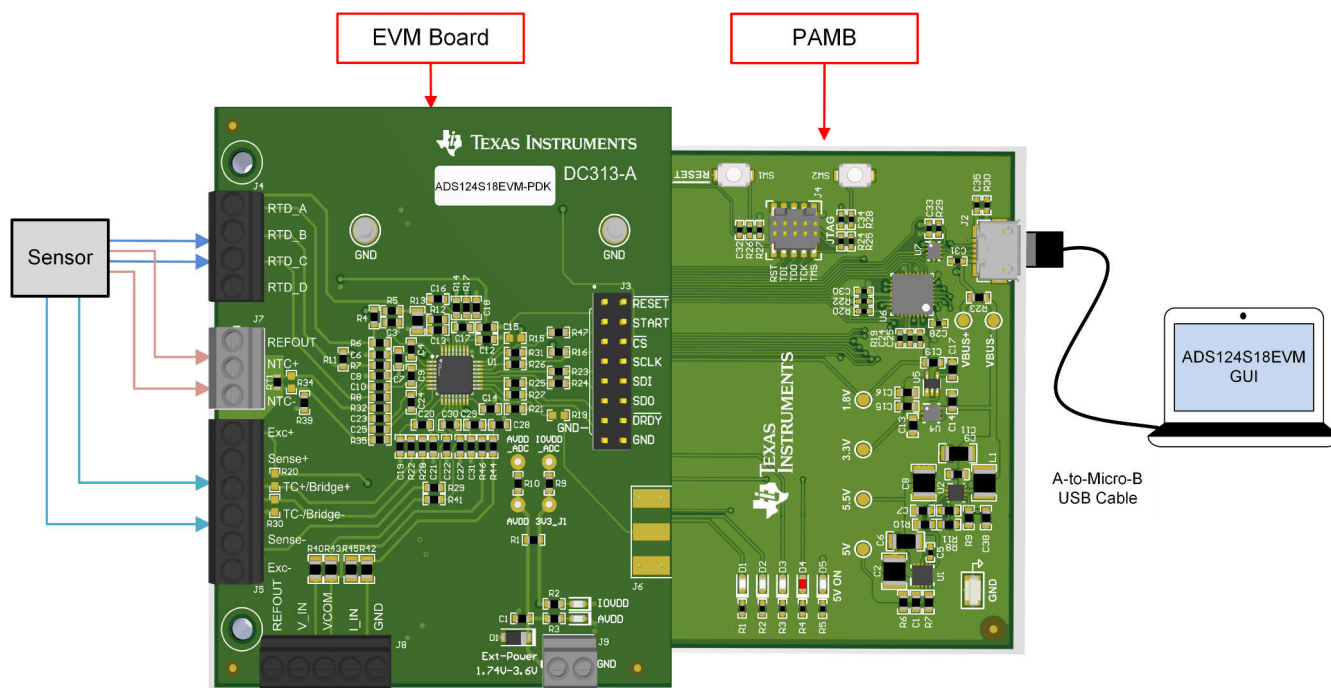

Figure 1-1. DC313A Connection for Evaluation
This user guide describes the operation and use of the ADS124S18 evaluation module. The ADS124S18EVM is a fully assembled evaluation platform designed to highlight the ADS124S18 device performance and functionality of operation that make this device designed for measuring different type of analog sensors. The evaluation module (EVM) sits on top of the PAMB, which is used as a USB-to-PC GUI communication bridge. This board combination also serves as an example implementation of connecting a microcontroller (MCU) to communicate with the ADS124S18 device through a SPI. Figure 1-1 shows a functional block diagram of the system setup.
7. Connect external sensors or signals to J4, J5, J7 or J8 on the ADS124S18EVM as shown in Figure 1-1.